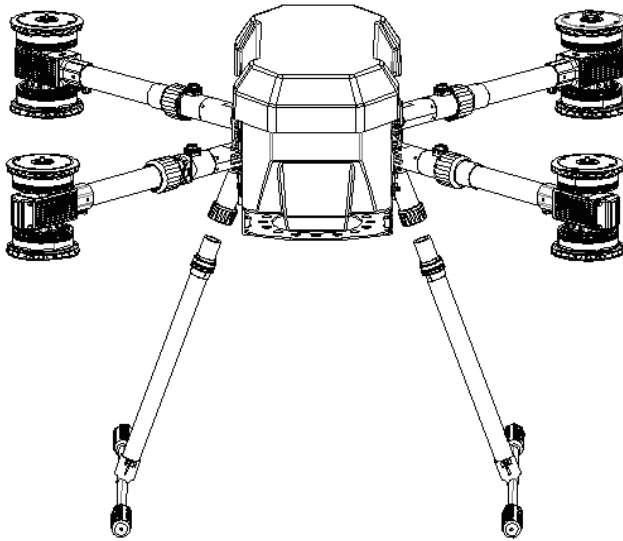
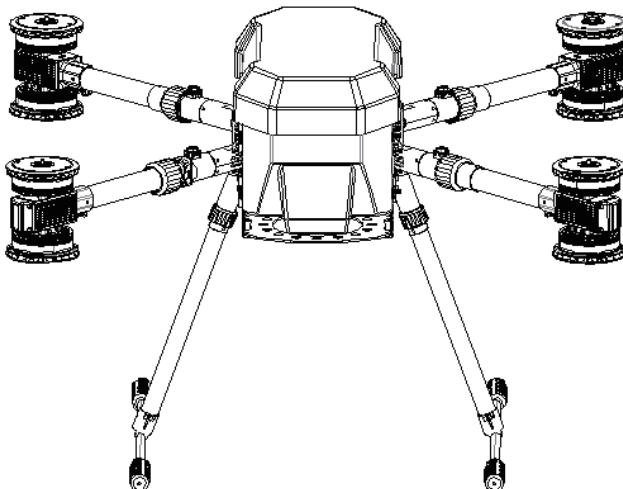

Figure 5 (Attach The Landing Gears)
Figure 6 (Landing Gears Assembled)
5. Attach the landings gears to the frame as per Figure 5. Assembly completes as shown Figure 6 (Please be aware of the limiting structure on the landing gear, and make sure they are in place before secure the rings. )